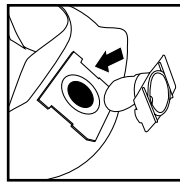

FIGURE 33
47. With the opening of the inlet deflector facing the left or right side of the filter bag, slide filter bag collar over deflector matching notches of bag collar to tabs on inlet deflector, bag will only fit properly one way. **FIGURE 33.**